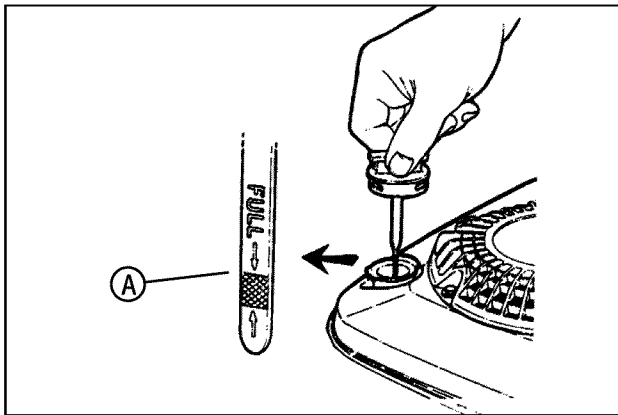

Figure 2: Checking engine oil
4. Check the engine oil and add oil as needed to bring the level up to the full mark (A, Figure 2). Refer to the Engine Owner's Manual for oil specifications.